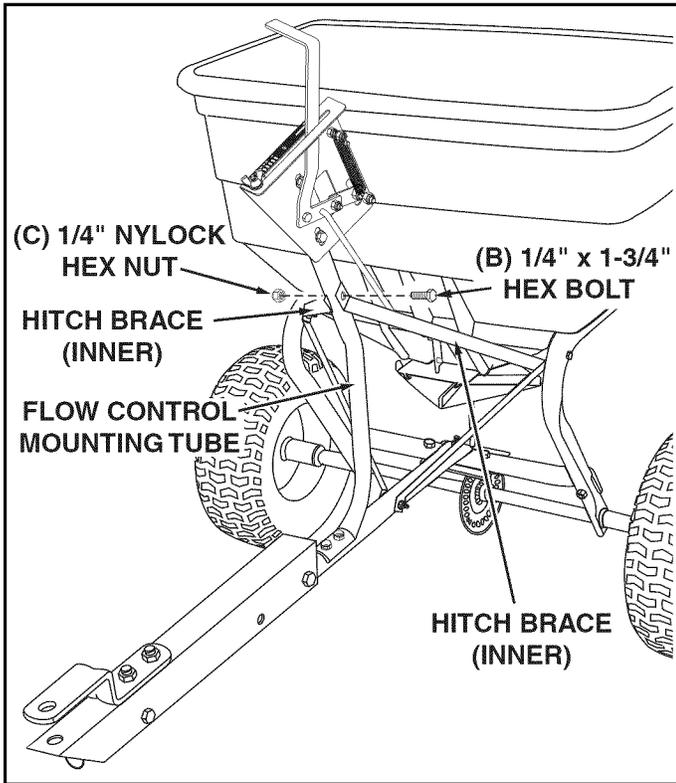

FIGURE 8
STEP 8: (SEE FIGURE 8)
- Assemble the two **INNER** hitch braces to flow control mounting tube using a 1/4" x 1-3/4" hex bolt (B) and a 1/4" nylock hex nut (C). **DO NOT TIGHTEN YET.**